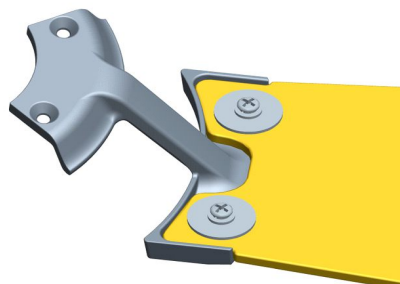

Fig 2.2
2.2 Fig 2.2 is the schematic diagram of the installed fan blade bracket. Repeat for the remaining blades. Make sure all the screws are firmly tightened.